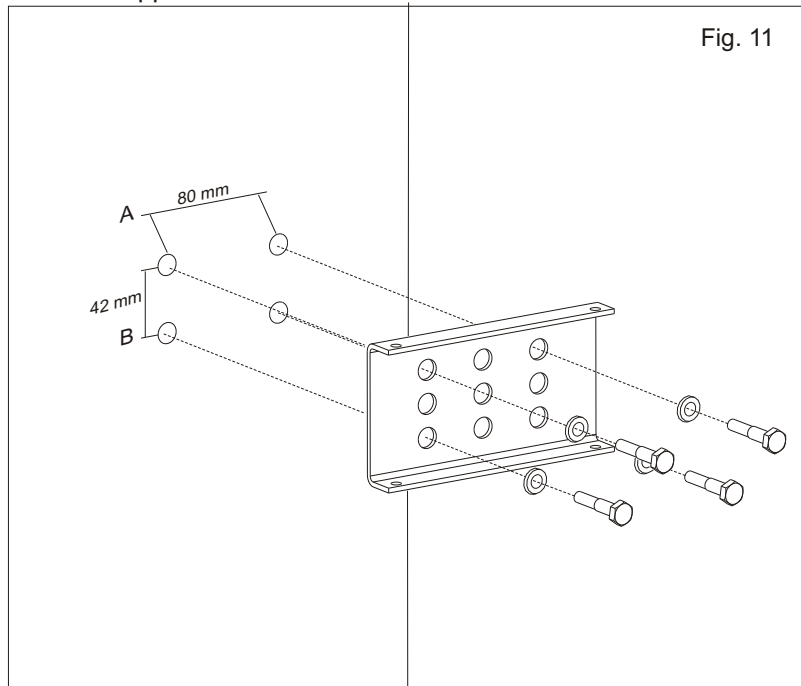

Fig. 11
- Attach the mounting plate to the pilaster with 4 screws and 4 washers \*not included\* (Fig. 11).